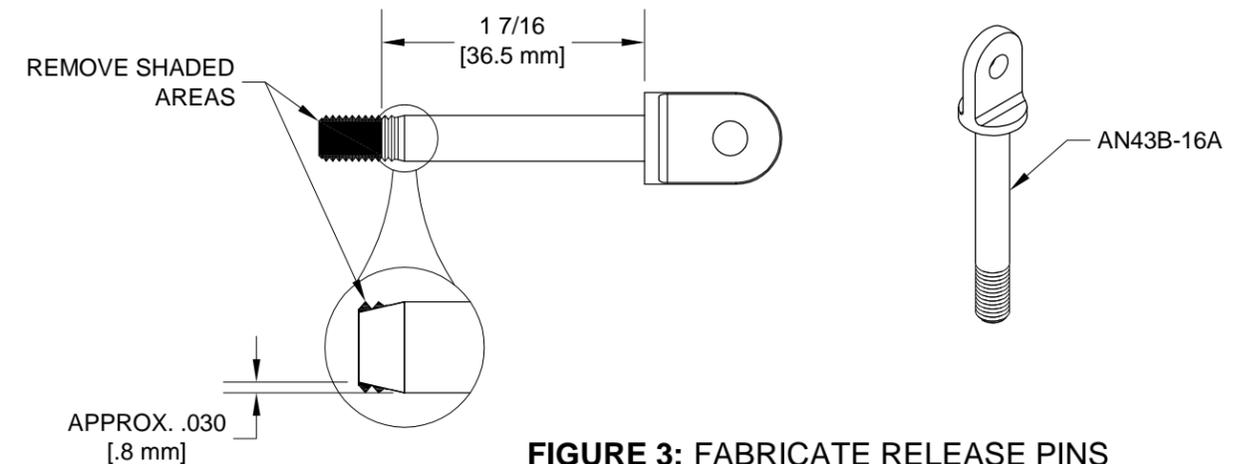

FIGURE 3: FABRICATE RELEASE PINS
Step 9: Grind a taper on the ends of the release pins following the slope of the existing shoulder (transition from shank to thread). Remove all the thread as shown in Figure 3.